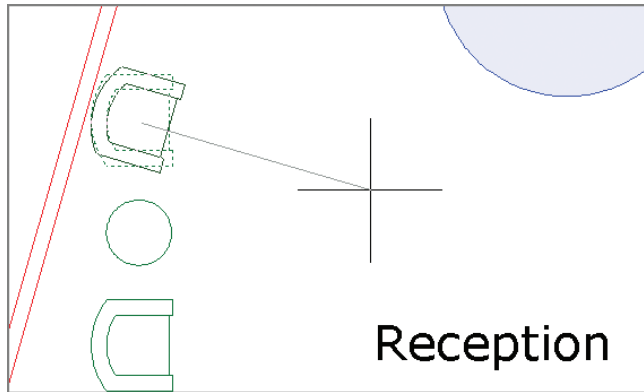

FIGURE 4.15 Rotating a chair by visually estimating the angle
3. Toggle off Polar Tracking (and Ortho if it is on) in the status bar. Move the cursor around the point, and observe that a rubberband line connects the base point to your cursor and a ghosted image of the chair is superimposed over the original chair representation. Move the cursor until the rubberband aligns more or less perpendicularly to the wall behind the chair (see Figure 4.15) and click.